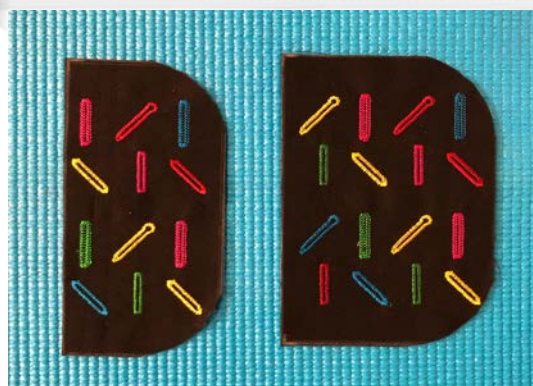

Fig 3
- Place Corner Curve template over the two top corners of each of the shapes, draw around, and cut out both pieces. See Fig 3.